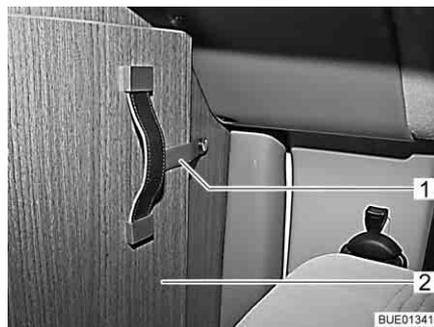

Fig. 41 Securing strap
- Release the securing strap (Fig. 41,1) from the foldable section of the driver's cabin partition (Fig. 41,2).